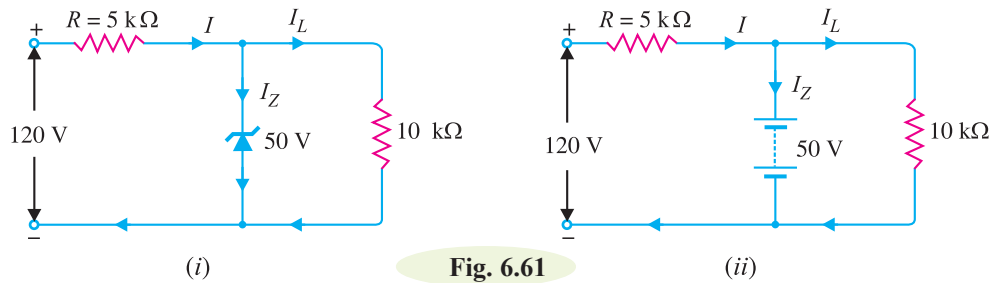

Fig. 6.61
**Example 6.25.** For the circuit shown in Fig. 6.61 (i), find :
**Solution.** If you remove the zener diode in Fig. 6.61 (i), the voltage  $V$  across the open-circuit is given by :
Since voltage across zener diode is greater than  $V_Z (= 50 \text{ V})$ , the zener is in the “on” state. It can, therefore, be represented by a battery of 50 V as shown in Fig. 6.61 (ii).
(i) Referring to Fig. 6.61 (ii),